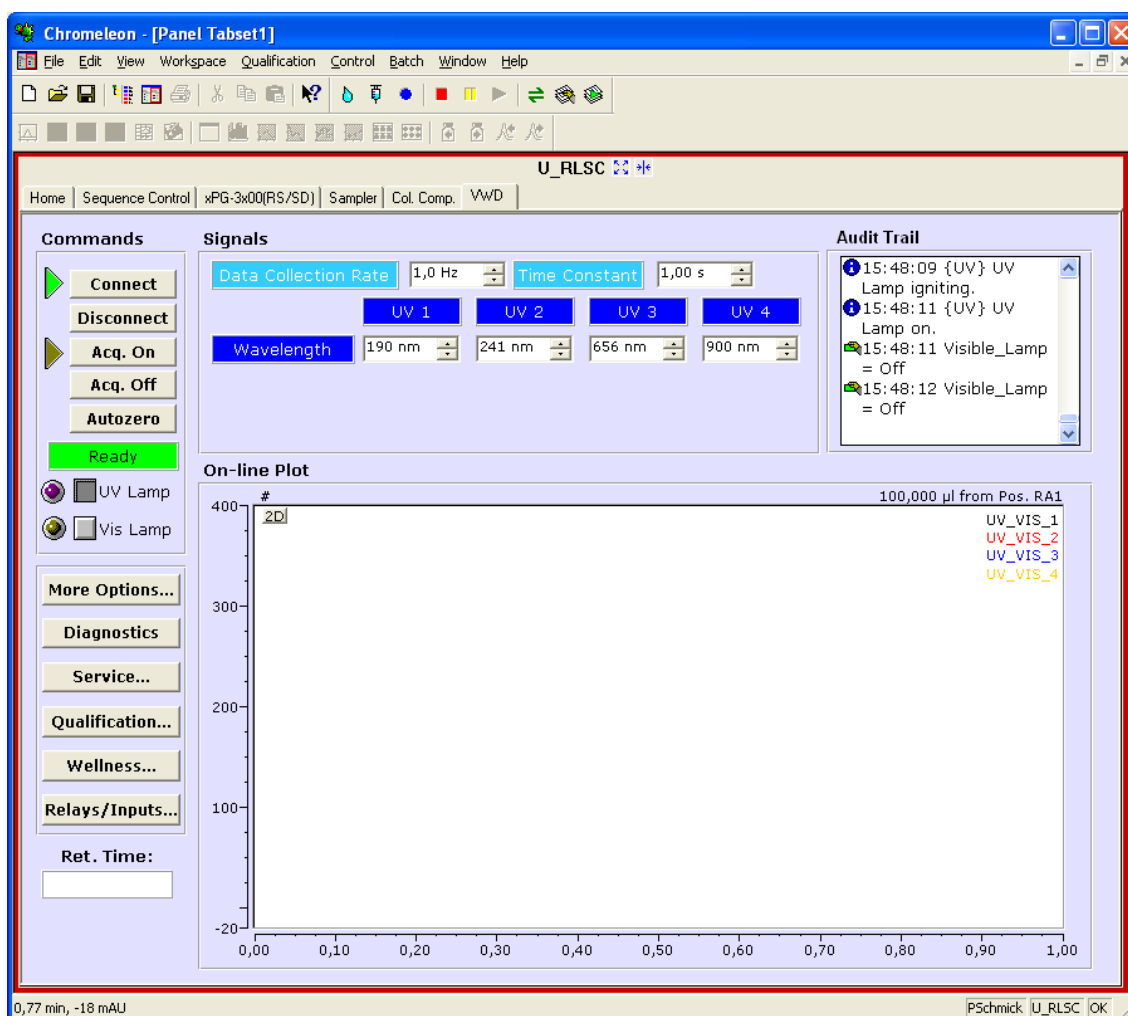

Fig. 19: Detector control panel on the panel tabset
Chromeleon creates centralized control panels, called panel tabsets (→ Fig. 19) for all timebases available on the Chromeleon server. A panel tabset provides control panels for the individual instruments in a timebase and, in addition, one or more panels for performing system-wide functions, for example, creating and running sequences. For more information about panel tabsets, see the Chromeleon Help.
2. On the **Panel Tabset** for your timebase, click the **VWD** page (→ Fig. 19).